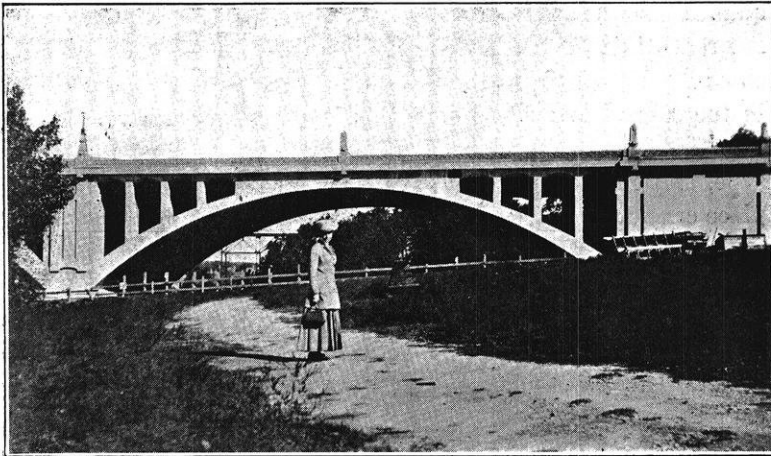

FIG. 4.
3. Over the top of the pan and running on rails at either side of it fits an inverted pan, called an igniter, 12' long, 7' wide and 6" high, (See Plate II and Figures 4 and 5.) The top plate of this is perforated and the whole clamps tightly over the pan. It carries above it a tank of kerosene, upon which an air pressure of eighty pounds is kept. This kerosene is piped to six spray
burners set at equal distances about the under side of the igniter. (See Figure 4.)